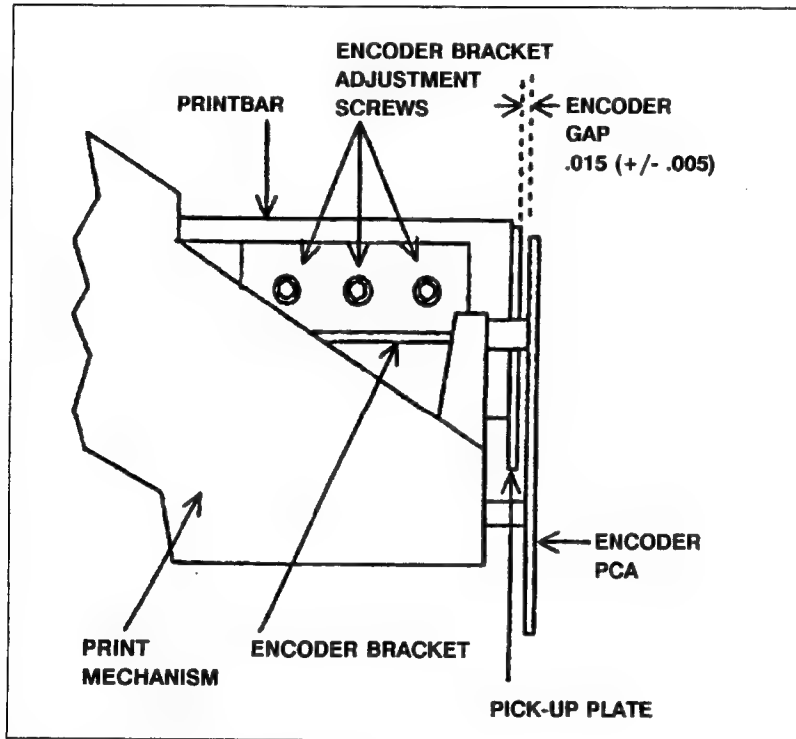

Figure 5-3. Encoder Adjustment
The encoder gap is the space between the Pick-Up PCA which moves with the print bar assembly, and the Encoder PCA which is mounted on the print mechanism casting. The gap should be $.015 \pm .005$ inches. The gap should be adjusted each time the print bar assembly, Encoder PCA or the Pick-Up PCA is replaced. The printer weldment must be removed prior to adjusting the encoder gap. This allows access to the 3 pick-up bracket adjustment screws (see Figure 5-3).
- b. Loosen the three pozidrive screws or 3mm socketed cap screws which support encoder pick-up plate bracket (see Figure 5-3).